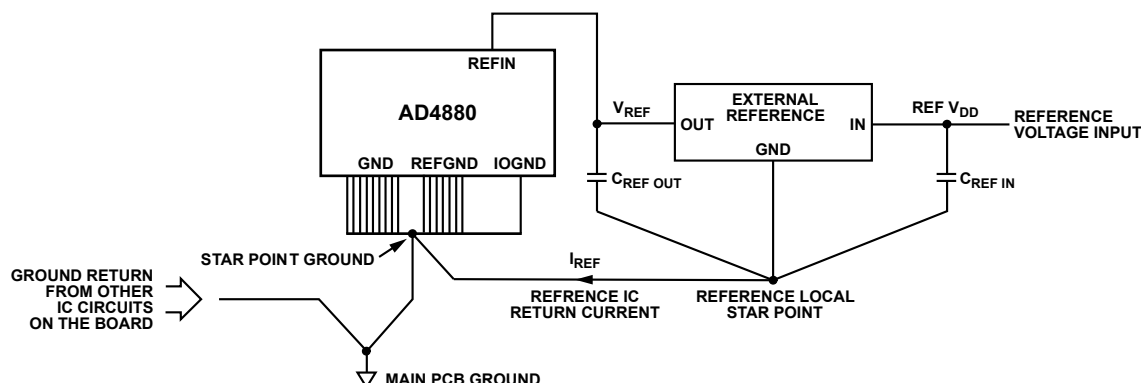

Figure 129. AD4880 External Reference Ground Connections
- ▶ Recommended connections of ground (GND), reference ground (REFGND), and digital ground (IOGND) connections are shown in Figure 129. It is recommended not to keep the current return path of the reference IC in the same current loop as the current return loop from other circuitry on the PCB. Connect the reference local star point to the ADC star point ground on the top layer of the PCB as shown in Figure 129.